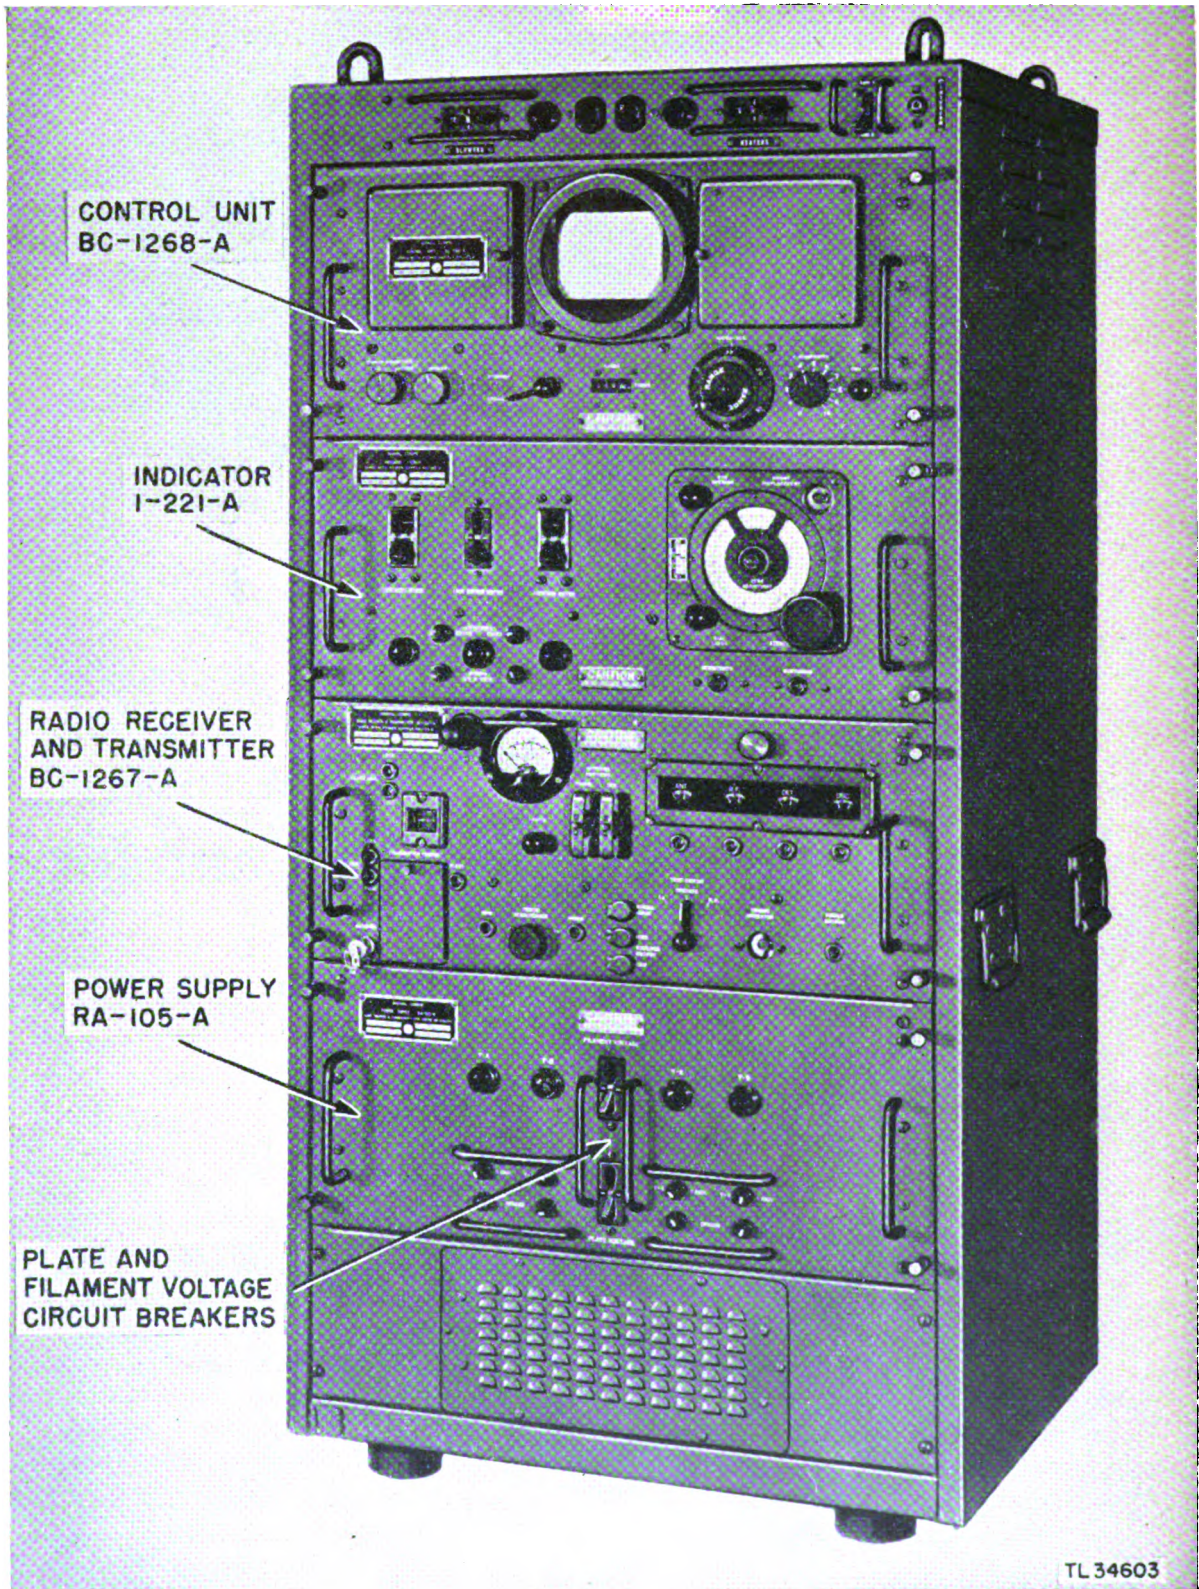

Figure 7. Radio Equipment RC-184—front view.
(1) Remove all power from the control unit by throwing the PLATE VOLTAGE and FILAMENT VOLTAGE circuit breakers to their OFF position. (See figs. 7 and 21.)
(2) Be careful not to strike the cathode-ray tube when the escutcheon is removed. This high vacuum tube will shatter easily and may shower glass dangerously.
(3) Avoid contact with the hot glass of the tubes for at least 10 minutes after the power has been turned OFF.
c. EQUIPMENT CAUTIONS. (1) Handle the vacuum tubes carefully.
(2) Use the proper tools. The use of the proper tool for each operation will insure optimum results from the tools involved and the parts concerned.
(3) Tag all terminals when removing a part for cleaning, adjustment, repair, or replacement. Tag the terminals of the part as well as each of the cables or wires removed. This operation requires but little time, and serious trouble caused by incorrect reconnections is avoided.
(4) When removing parts, place every screw, washer, bolt, or small part into a small container to avoid losing them.
(5) Use care in handling the tools and parts within the unit. Be careful not to drop any part in the unit.
(6) Never use water for cleaning anything within the unit. The only cleaning agent to be used is carbon tetrachloride.
(7) Make sure that every terminal disconnected for inspection is properly and carefully reconnected. Tighten all nuts and screws securely. Be careful however, not to exert too much force and strip threads or ruin connections.
(8) Resistors and capacitors with pigtail connections must be handled carefully to avoid breaking off the fragile connections.
d. LOCATION (figs. 7 and 11).